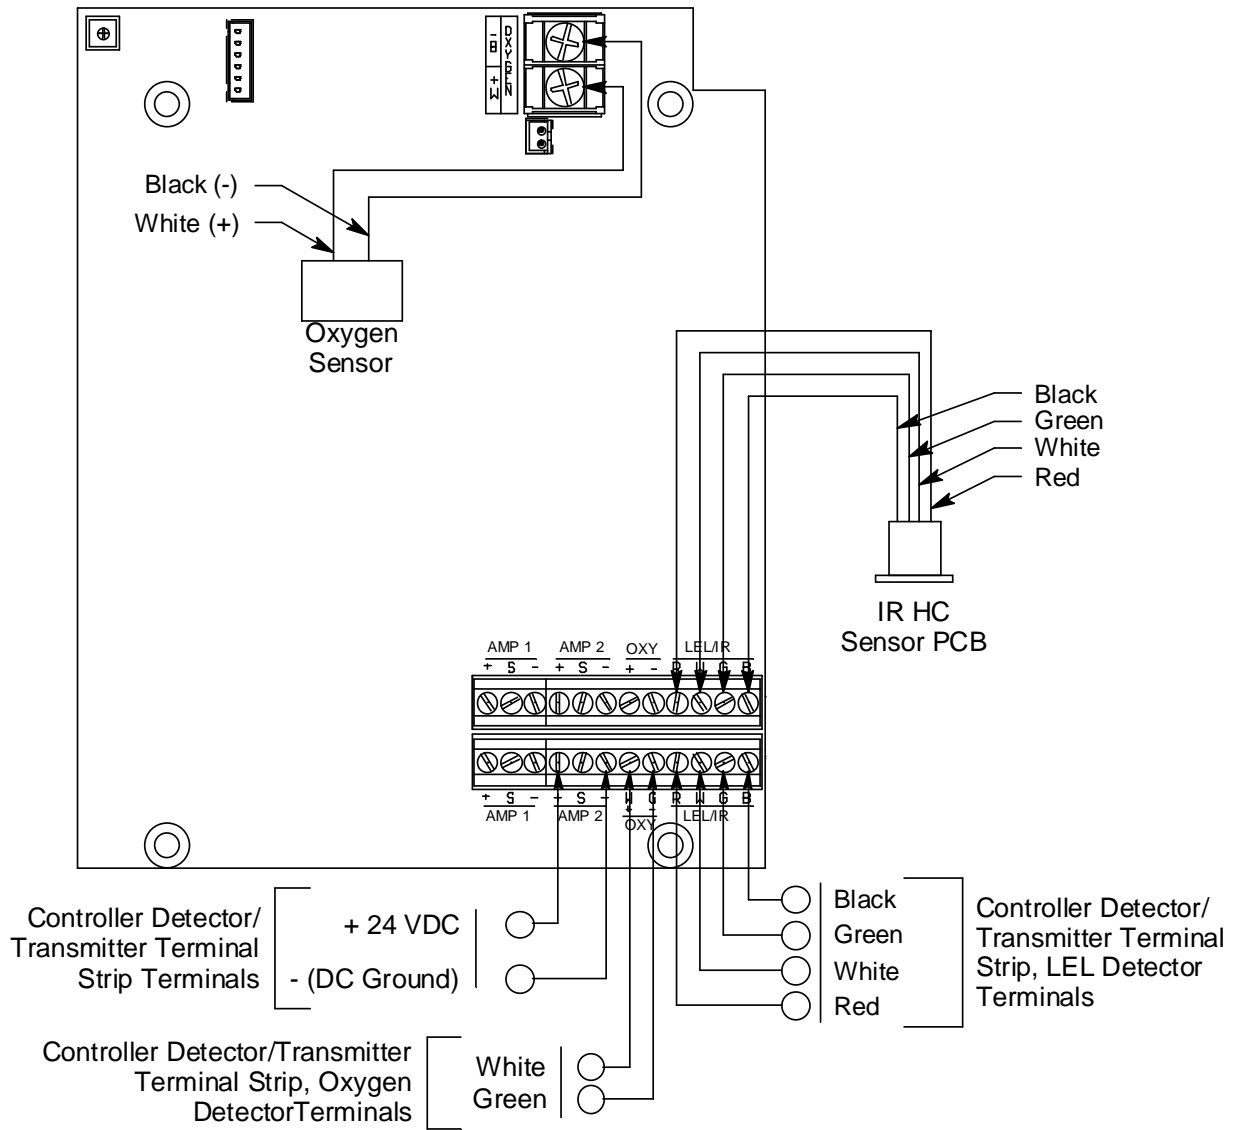

Figure 4: Wiring the Sample-Draw Detector to a Controller
5. Connect the cable to the sample-draw detector’s interconnect terminal strip as shown in Figure 4.
8. Connect the wires to the applicable detector/transmitter terminal strip at the controller as shown in Figure 4. Refer to the controller operator's manual and the controller detector head specification sheet for the 35-3001-06-02 for detector/terminal strip connections specific to the controller.
8. Guide the wires and lugs of the replacement sensor to the oxygen terminal strip and insert each lug into the appropriate terminal. See Figure 4 on page 13 for wiring connections. Tighten the screws on the terminal strip.